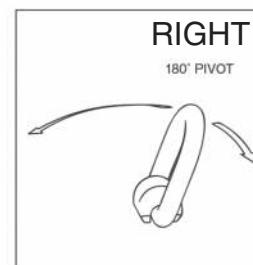

Figure 4
- Always apply load within 90° of inline, at any pivot angle (Figure 4 & 5).